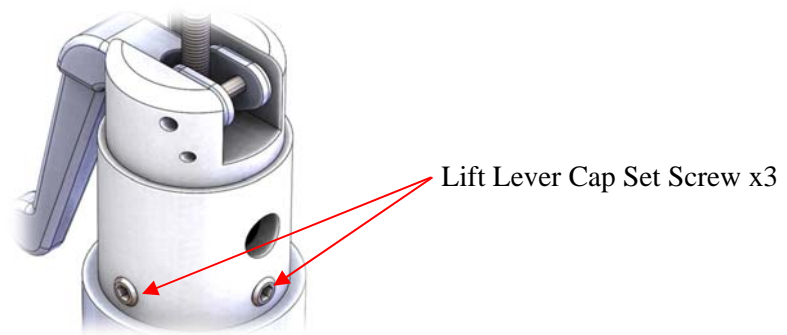

Figure 19: Lift Lever Cap Set Screws
4. Loosen the three lift lever cap set screws. See Figure 19. These must be unscrewed enough so that they no longer engage the lift lever lock nut.